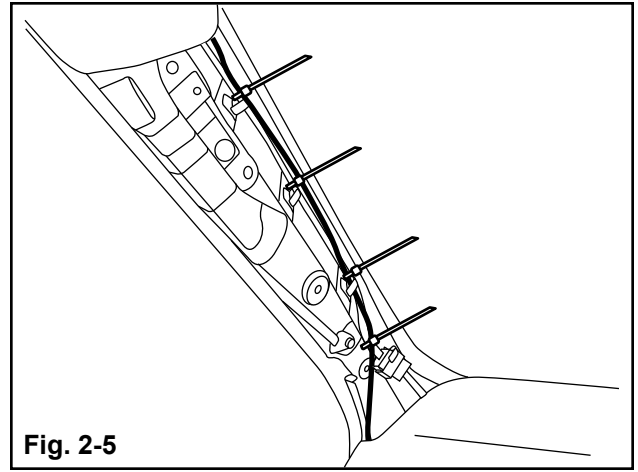

Fig. 2-5
- b) Secure harness to OEM wire harness with included wire ties. (Fig. 2-5)